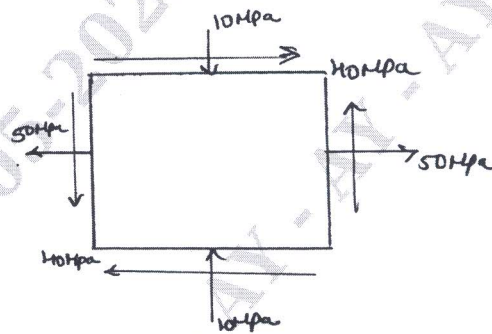

Fig.Q4
- 4 For the state of stress shown in Fig.Q4 determine :